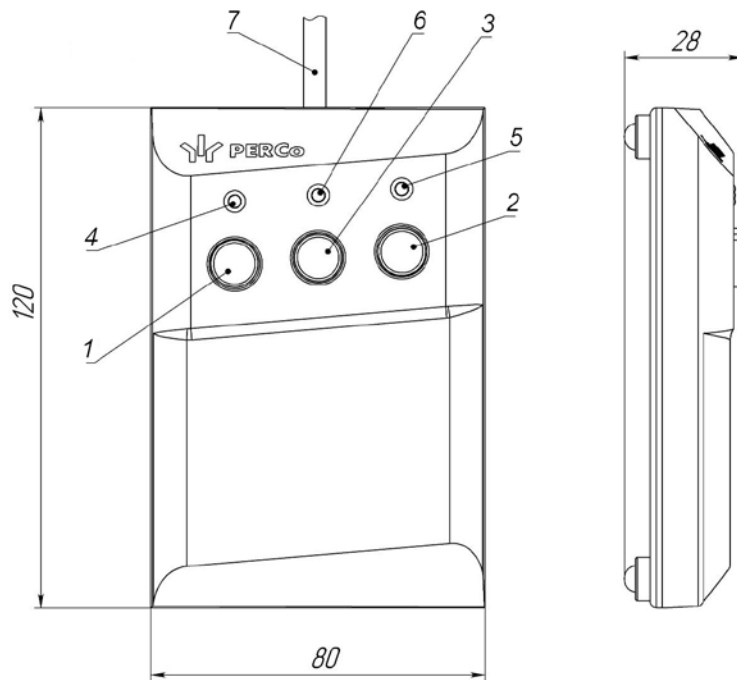

Figure 4. RC-panel design and overall dimensions
RC-panel (12) is connected to the IP-Stile housing with an RC-panel cable. RC-panel design and overall dimensions are shown in Figure 4.